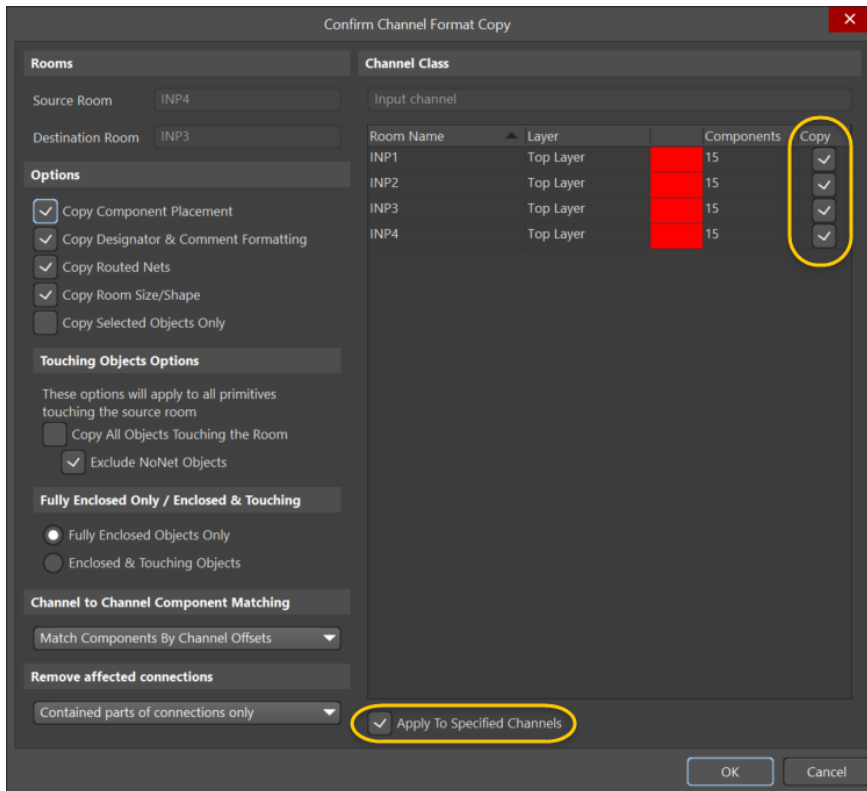

Figure 11. Copy Room Format dialog
22. Then, click on Room INP1 to designate it as the *Destination Room*. The *Confirm Channel Format Copy* dialog will appear as shown in Figure 11.